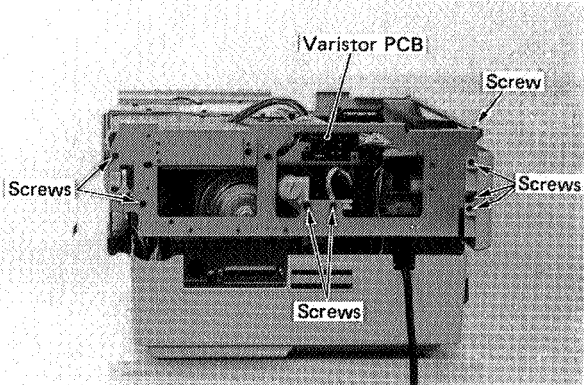

Figure 4-22
- (3) Unplug the connector and take out the left frame, high-voltage power supply, and main motor. (See Figs. 4-22, 4-23 and 4-96.)
- (4) Remove the separation belt.